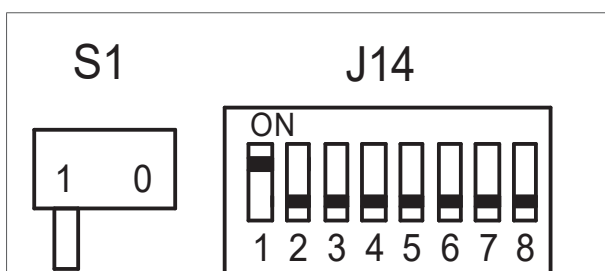

Figure 10 - Positions of the S1 and J14 switches
2. Set the S1 and J14 switches on the control unit as follows (figure 10 / 11):